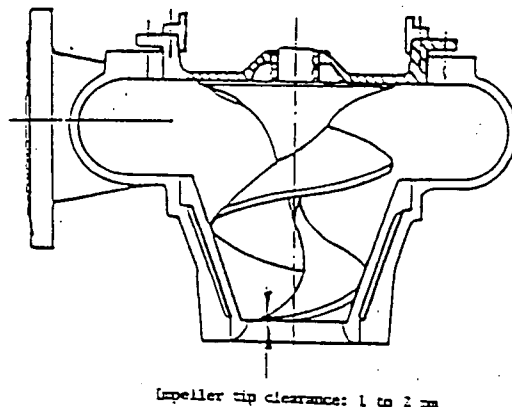

Figure 32
NOTE: (Whenever a new impeller is fitted, without also replacing the liner or suction cover at the same time, the following clearance check must be done: Install impeller-motor assembly into volute casing assembly. If the tip of the impeller touches the suction ring (408) or the lip in the liner (or suction cover) - or if there is less than 1mm clearance between the tip and the lip when the spiral edge of the impeller is firmly seated against the conical taper inside the liner (or suction cover), then the impeller tip must be ground off - parallel to the suction flange - until 1 to 2mm clearance is obtained. See Figure 32).